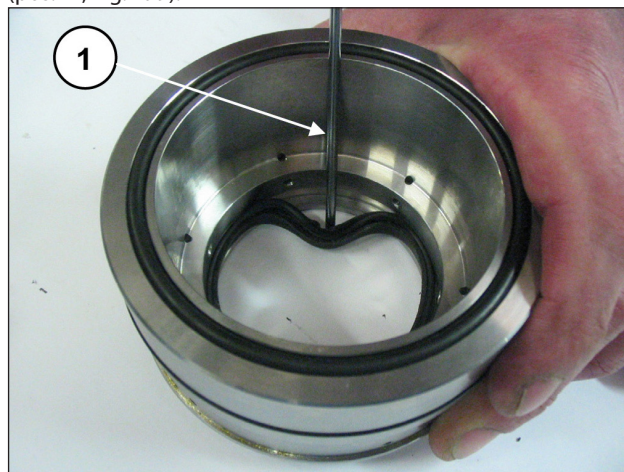

Fig. 199
To remove the low pressure seal, use a thickness gauge or another tool which will not damage the seal support housing (pos. ①, Fig. 199).